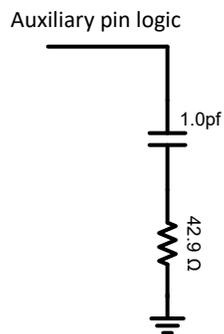

Figure 27-1. Auxiliary Pin Logic
2. Logic to drive auxiliary signals can drive $1.0\ \text{pF}$ and $42.9\ \Omega$ passive termination, refer to Figure 27-1. The combination of these R&C can produce close to $50\ \Omega$ termination at the 32 Gbps Nyquist frequency.